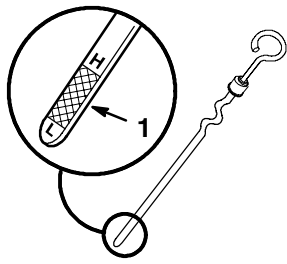

Figure 6
4. Pull out the oil dipstick and wipe the metal end clean (Fig. 6).
6. Pull the dipstick out and look at the metal end (Fig. 6). If the oil level is low (near the L mark), add oil; refer to Engine Oil, page 23.